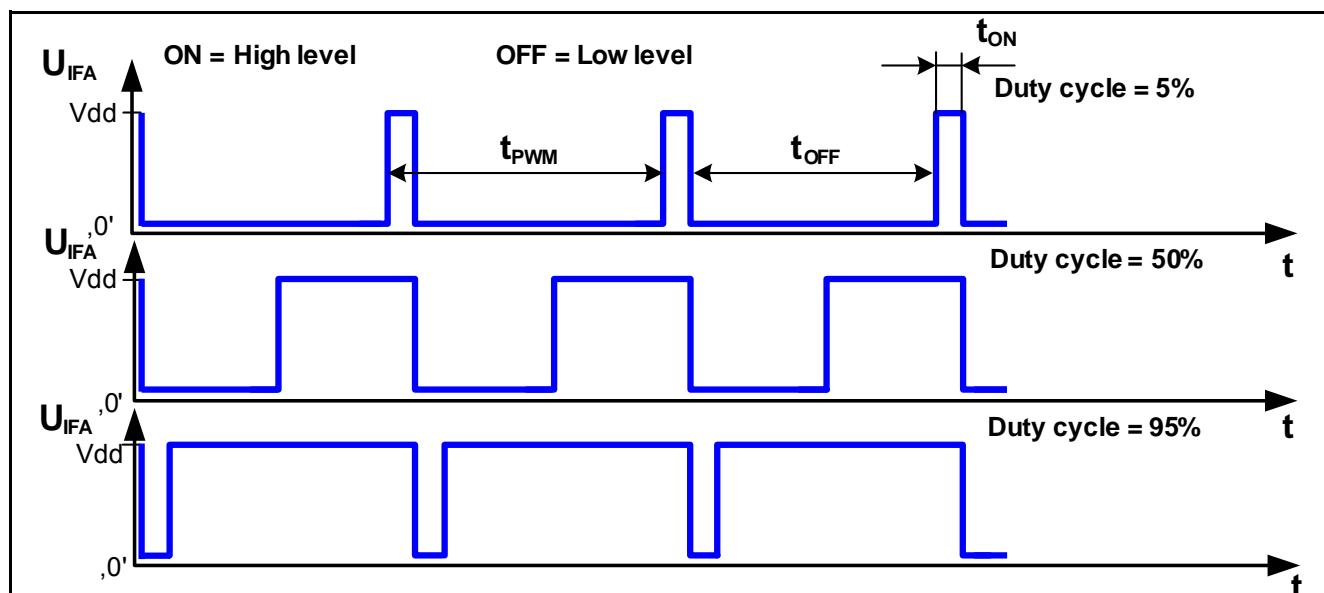

Figure 22 Typical Example for a PWM Signal
**Figure 22** shows the principal behavior of a PWM with various duty cycles and the definition of timing values. The duty cycle of a PWM is defined by following general formulas: